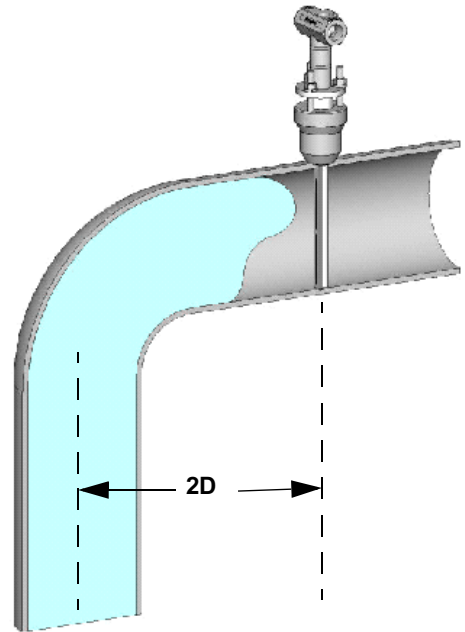

Figure 2: Annubar mounted 2D for an elbow
3. Mount the 485 Annubar two inside pipe diameters from the center of the upstream pipe (Figure 2) in-plane with the elbow. (Inside or outside radius mounting are both acceptable, but the outside is preferred).